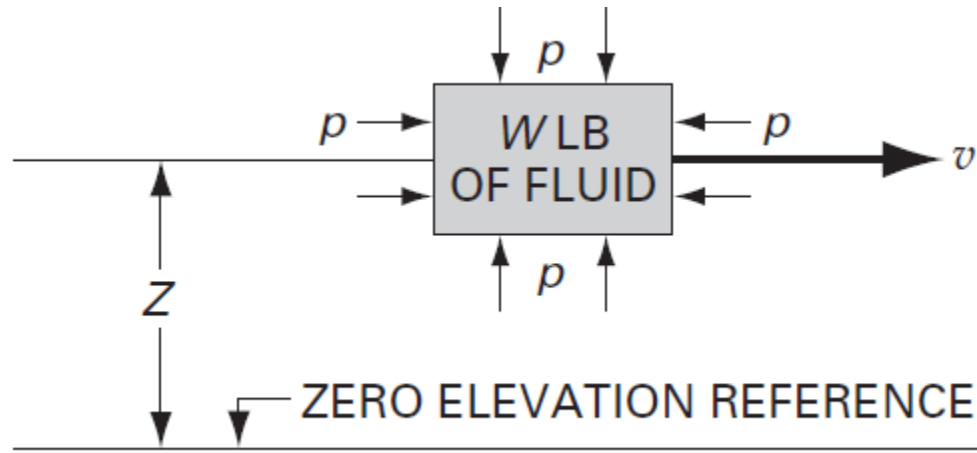

Figure 3-22. The three forms of energy as established by elevation (Z), pressure (p), and velocity (v).
1. Potential energy due to elevation (EPE): Figure 3-22 shows a chunk of fluid of weight W lb at an elevation Z with respect to a reference plane. The weight has potential energy (EPE) relative to the reference plane because work would have to be done on the fluid to lift it through a distance Z :
2. Potential energy due to pressure (PPE): If the W lb of fluid in Figure 3-22 possesses a pressure p , it contains pressure energy as represented by
3. Kinetic energy (KE): If the W lb of fluid in Figure 3-22 is moving with a velocity v , it contains kinetic energy, which can be found using
Per the conservation of energy law we can make the following statement about the W -lb chunk fluid in Figure 3-22: The total energy E_T possessed by the W -lb chunk of fluid remains constant (unless energy is added to the fluid via pumps or removed from the fluid via hydraulic motors or friction) as the W -lb chunk flows through a pipeline of a hydraulic system. Mathematically we have